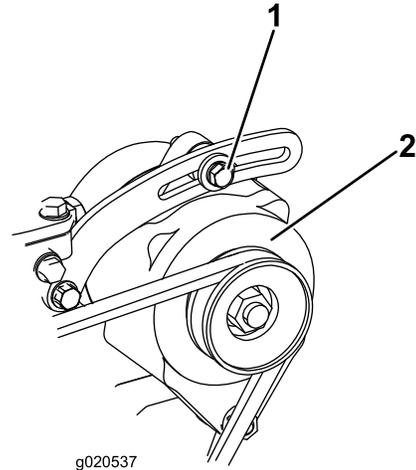

**Figure 143**
4. Thoroughly clean both sides of the radiator/oil cooler with compressed air (Figure 143).